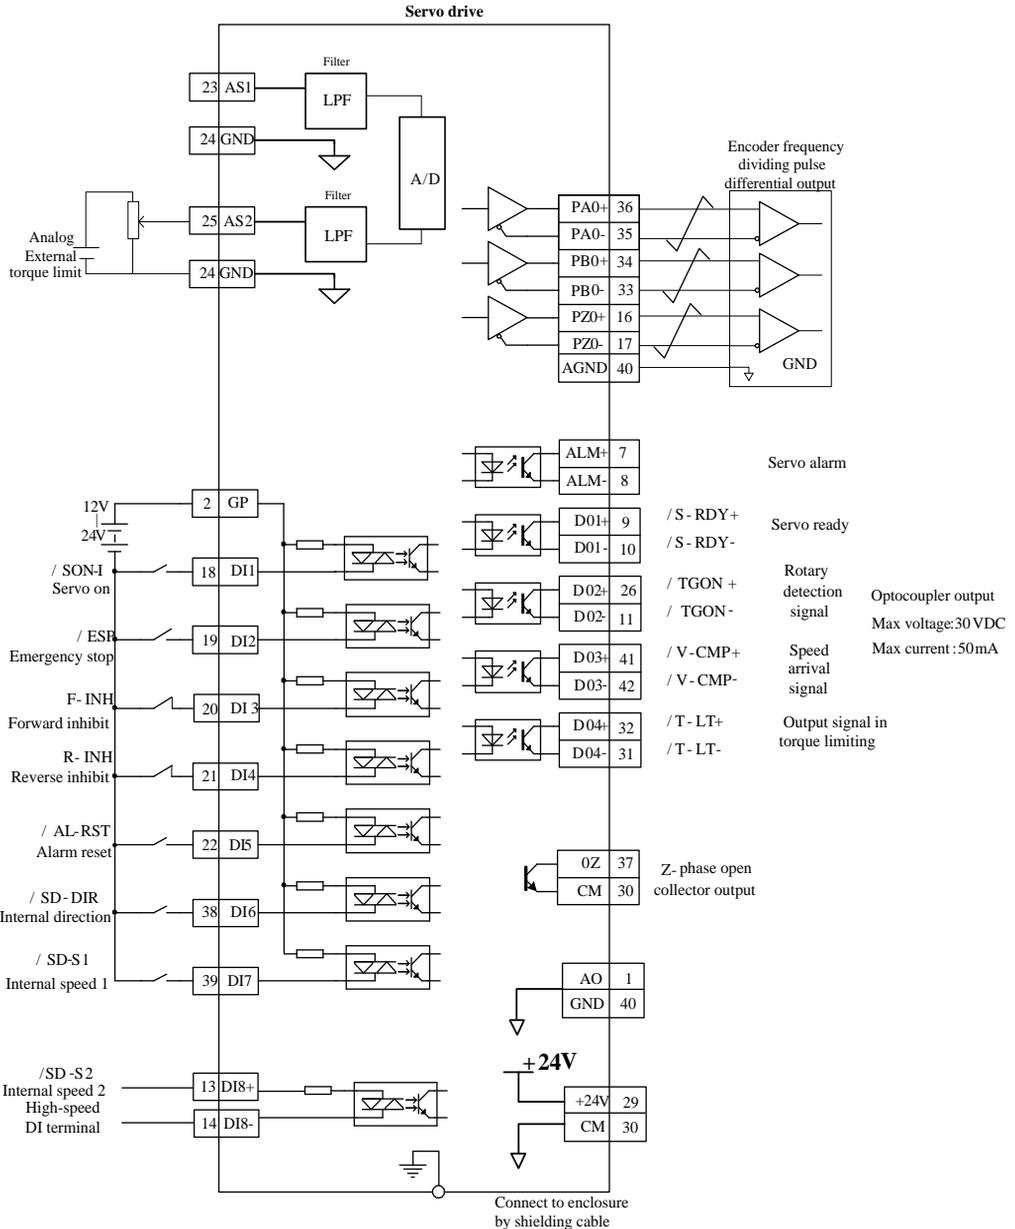

Fig6.2.2 Wiring of internal speed mode
- ★ Refer to Fig 6.2.2 and Fig 6.2.3 to connect DI/DO.